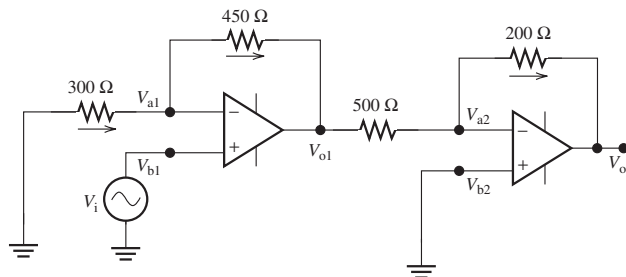

FIGURE P8.74 Circuit for Problem 8.74.
- 8.74** (H) The input voltage of the circuit shown in Figure P8.74 is 20 V. Determine the output voltage of both op amps, V_{o1} and V_{o2} .